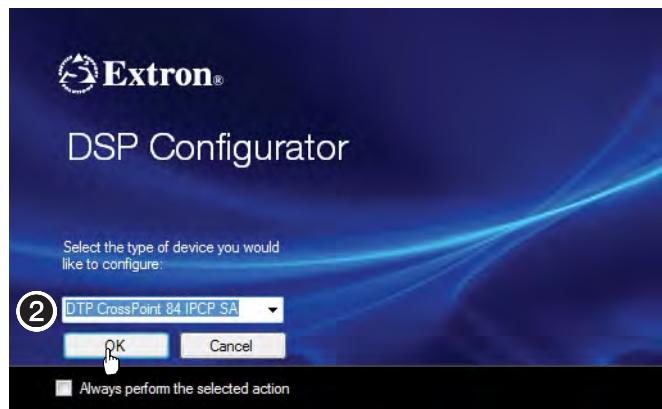

Figure 39. DSP Configurator Screen and DTP CrossPoint Selection
1. Click **Start > Programs > Extron Electronics > DSP Configurator > DSP Configurator**. The DSP Configurator startup screen displays (see figure 39).